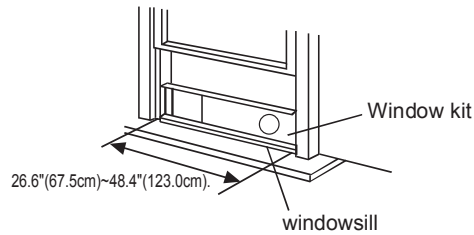

Fig. 9
2. Attach the window slider kit to the windowsill. Adjust the length of the window slider kit according to the width of window, shorten the adjustable window kit if the width of window is less than 26.6 inches. Open the window sash and place the window slider kit on the windowsill. Fig. 9.